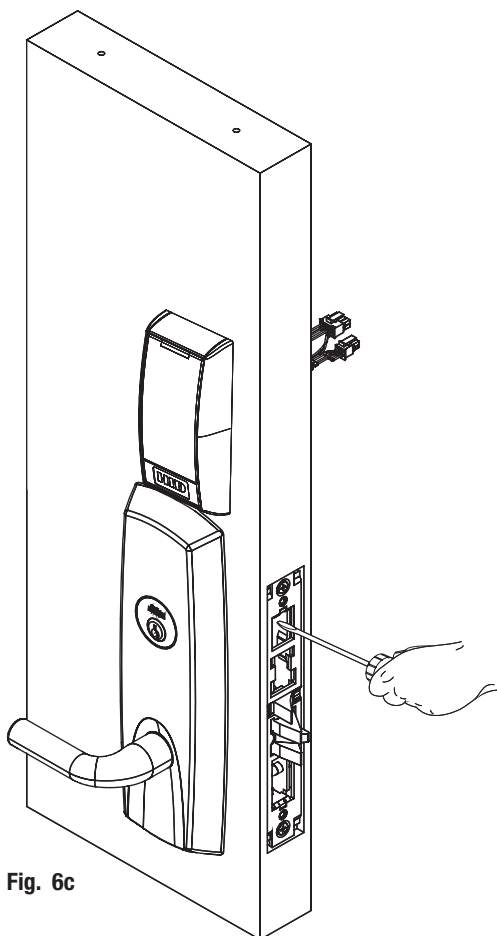

Fig. 6c
- d. Tighten down set screw to prevent cylinder movement (Fig. 6c).